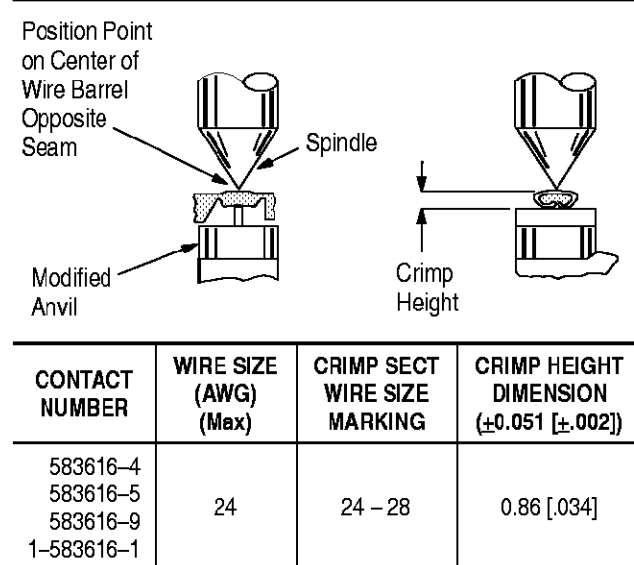

Figure 5
This inspection requires the use of a micrometer with a modified anvil as shown in Figure 5. It is
1. Select one of each of the contacts, and the maximum wire size for each from the chart in Figure 5.
3. Using a crimp height comparator, measure each wire barrel crimp height as shown in Figure 5. If the crimp height conforms to that shown, the tool is considered dimensionally correct. If not, refer to Section 6 for information on obtaining evaluation and repair.
1. Determine the maximum wire size, and the applicable contact for the tool. See Figure 5.